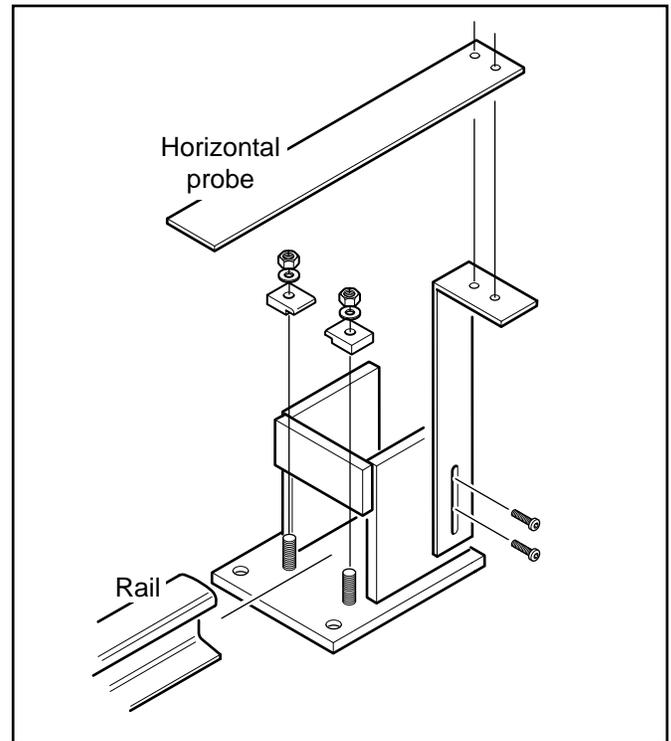

Figure 2.7 End-of-Kiln Safety Stop
3. Install horizontal probes on the left hand rails at the end of all kiln rails. See Figure 2.7.